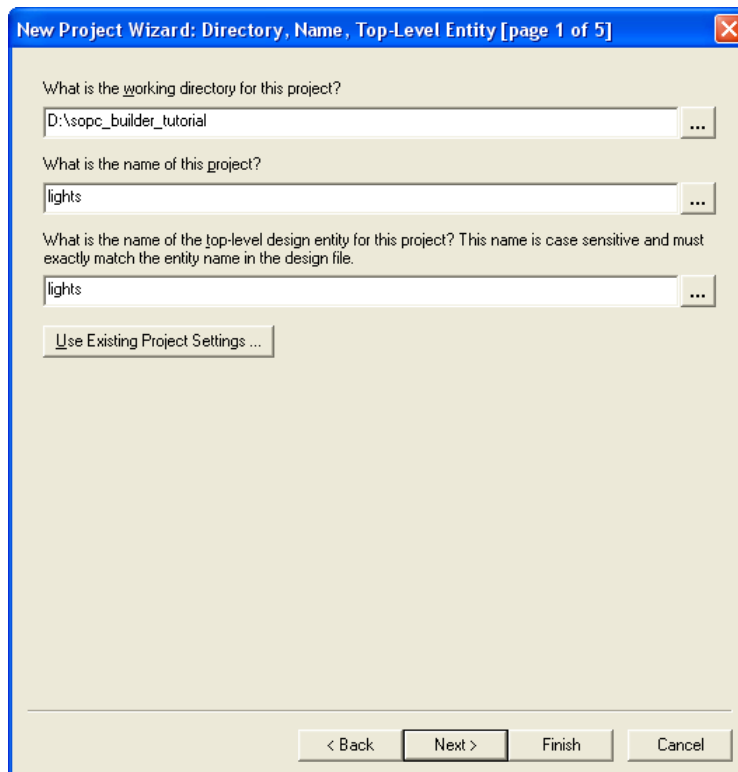

Figure 3. Create a new project.
1. Create a new Quartus II project for your system. As shown in Figure 3, we stored our project in a directory called *sopc\_builder\_tutorial*, and we assigned the name *lights* to both the project and its top-level design entity. You can choose a different directory or project name, but be aware that the SOPC Builder software does not permit the use of spaces in file names. For example, an attempt to use a directory name *sopc builder tutorial* would lead to an error. In your project, from the list of available devices, choose the appropriate device
Figure 18 shows a top-level Verilog module that instantiates the Nios II system. This module is named *lights*, because this is the name we specified in Figure 3 for the top-level design entity in our Quartus II project. Note that the input and output ports of the module use the pin names for the 50-MHz clock, *CLOCK\_50*, pushbutton switches,